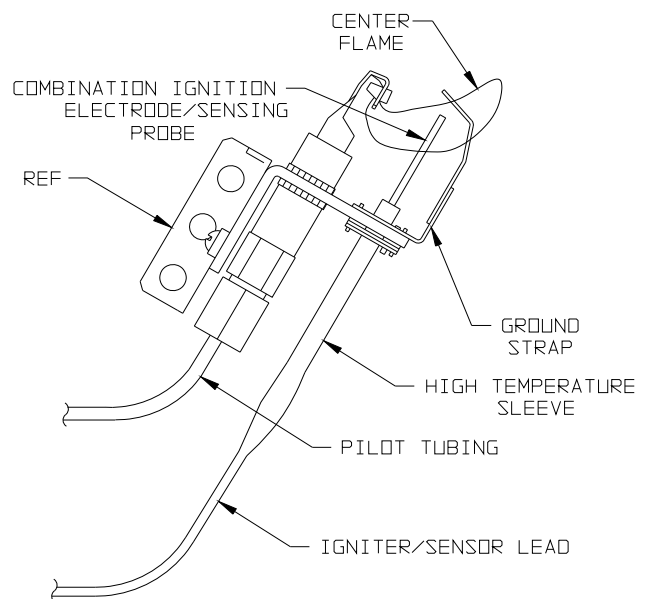

Figure 12-5: Pilot Burner Flame
14. Check Pilot Burner Flame - The pilot burner produces three (3) flames. The center flame should be steady, medium hard blue enveloping 3/8 to 1/2 inch of sensing probe. See Figure 12-5.